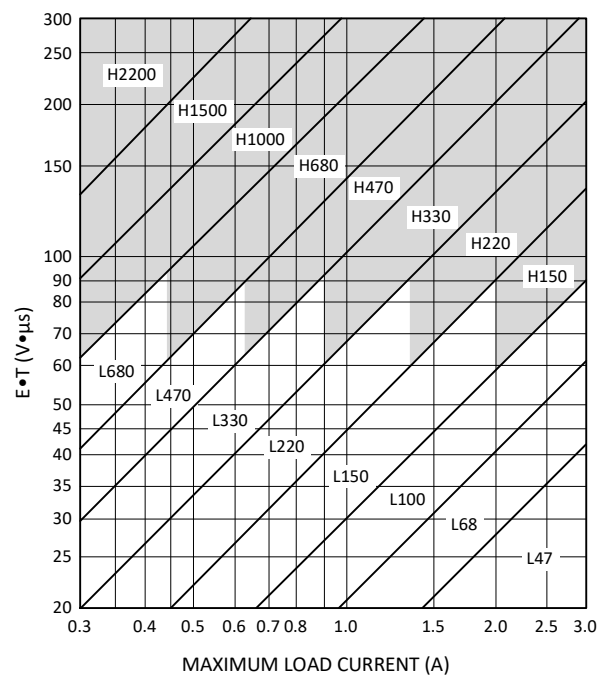

Figure 25. LM2576HV-ADJ
2) Use the $E \times T$ value from the previous equation and match it with the $E \times T$ number on the vertical axis of the Inductor value selection guide shown in Figure 25.